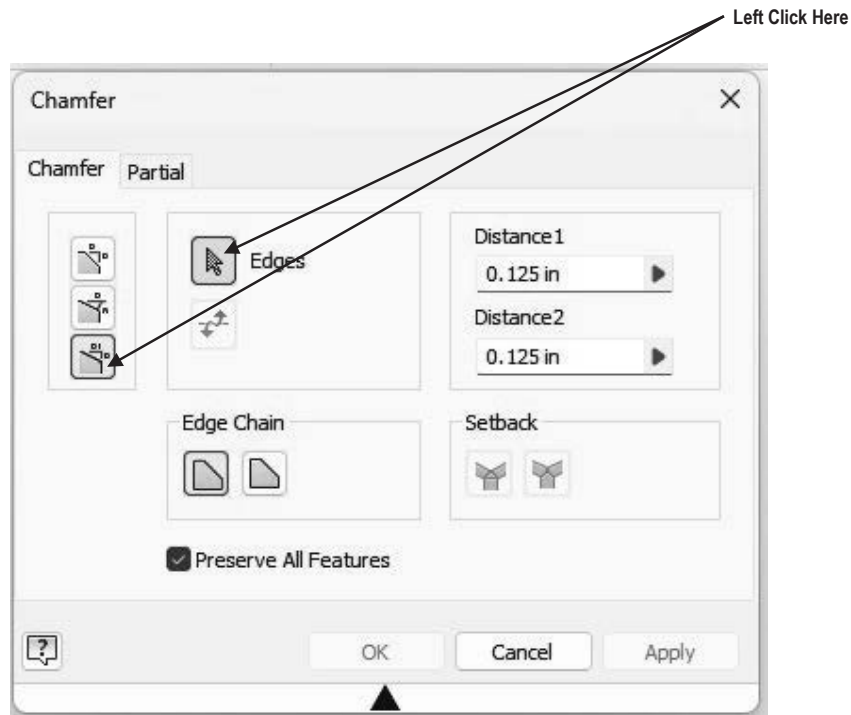

Figure 3
5. After selecting **Chamfer**, the Chamfer dialog box will appear. Left click on the **Edges** icon. Left click on the “Two Distance Chamfer” icon as shown in Figure 3.